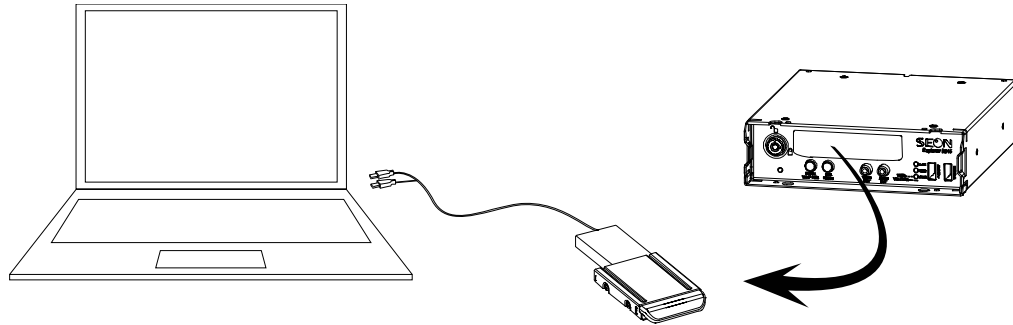

Figure 3-1 MX4 Drive Interface with Hard Drive
2. Connect to the USB ports on a PC or laptop with vMax View installed, as shown in Figure 3-1.